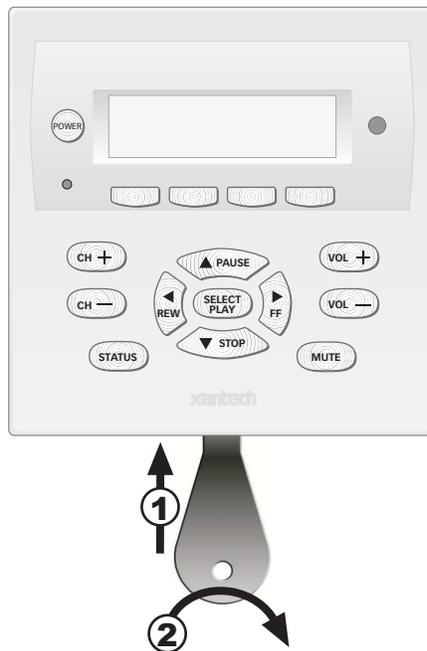

Figure 9 – Removing the MRC44 Keypad from the wall
1. Insert the MRC44 keypad removal tool into the slot at the bottom of the keypad, as shown in **Figure 9**, being sure that the tool is inserted so that the “insert to here” line slides under the Keypad. This will reduce the risk of damage to the Keypad or the wall.